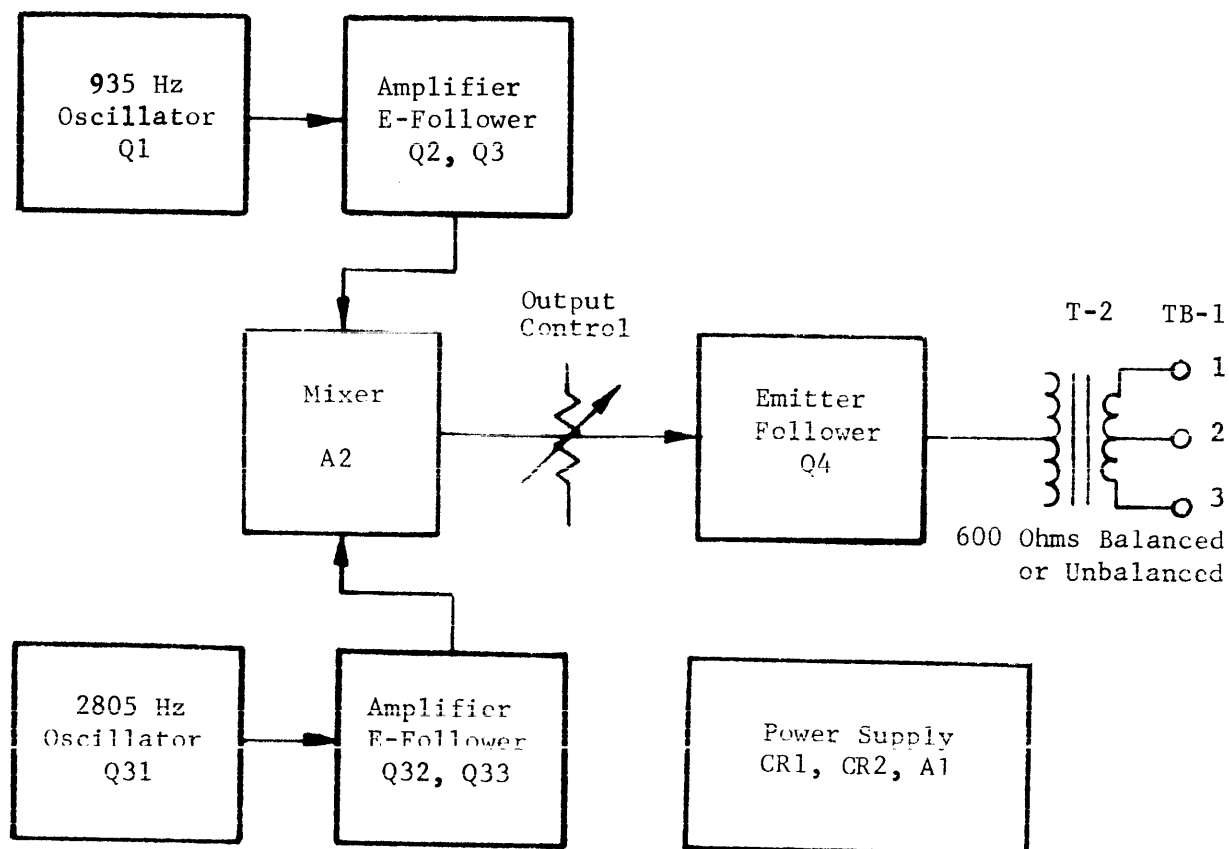

Figure 4-1. Block Diagram, Test Generator, Model TTIC-1
- a. Refer to figure 4-1. Tones are generated by oscillators Q1 and Q31 and amplified by Q2, Q3, Q32, and Q33. The two audio signals can be used separately or together and are available at terminal strip TB1. When both tones are used together, they are mixed in mixer A2. Q4 is an emitter follower. The internal controls (R11/R41) permit adjustment of either tone. Balance control (R30) enables the operator to balance the tones in the output level. Control R29 is for adjusting the output level.